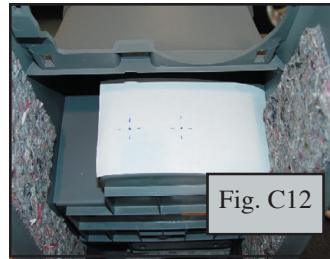

Fig. C12
- iii. Align template with lower edge and center. (Fig. C12)